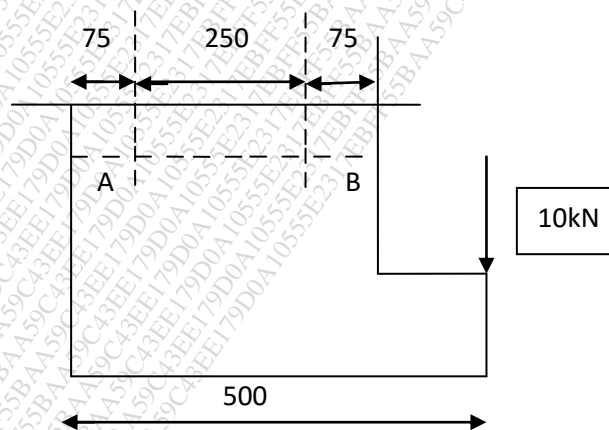

Fig.1
- b) A cast iron bracket is shown in fig.1 support a load of 10kN. It is fixed to a horizontal channel by means of four identical bolts, two at A and two at B. The bolts are made of 30C8 with $S_{yt} = 400\text{MPa}$ and factor of safety is 5. Determine major diameter of bolts ($d_c=0.8d$).